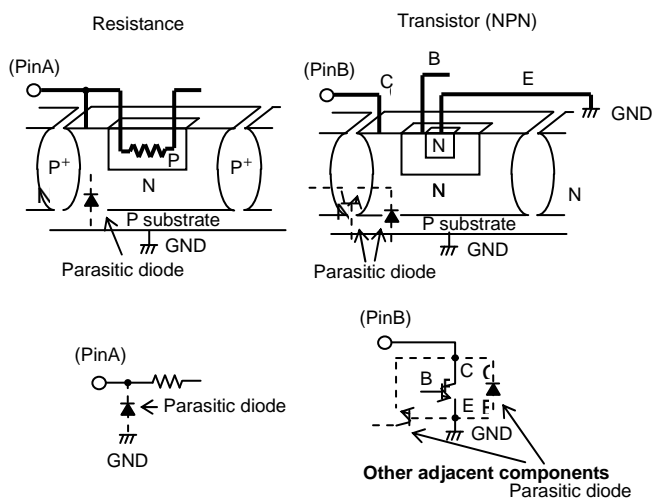

Fig.1 Simplified structure of a Bipolar IC
13. This IC is a monolithic IC which (as shown is Fig.1)has P⁺ substrate and between the various pins. A P-N junction is formed from this P layer of each pin. For example, the relation between each potential is as follows.